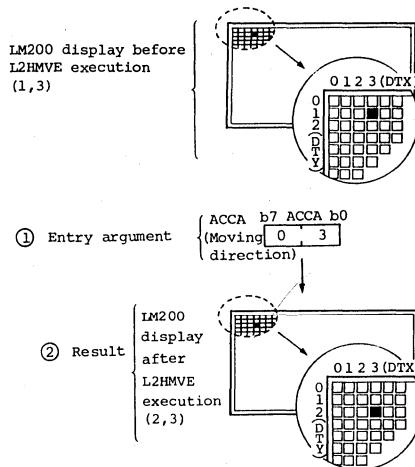

Figure 1-7. Example of L2HMVE Execution
- b. Example of L2HMVE execution is shown in figure 1-7. If entry argument is as shown in part ① of figure 1-7, dots are displayed as shown in part ② of figure 1-7.